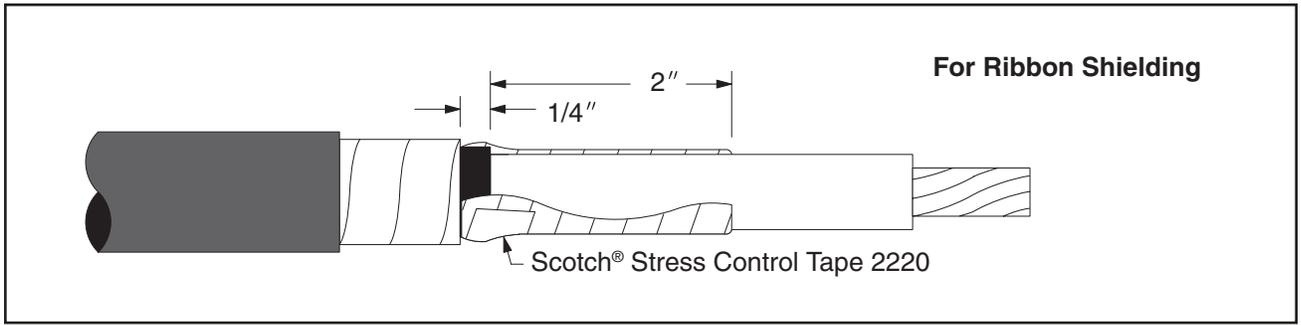

Figure 8a
6.1 Apply two half-lapped layers of Scotch® Stress Control Tape 2220 for 1/4" onto the cable semi-con (1/2" onto UniShield® jacket) and extend two inches onto cable insulation (wrap tape silver side out). *Figures 8a, 8b or 8c,* depending on type of cable shielding.